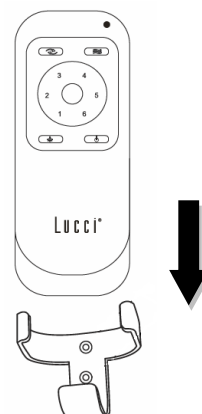

Fig. 13b
- Slide the remote into the holder to rest the remote. (Fig. 13b)